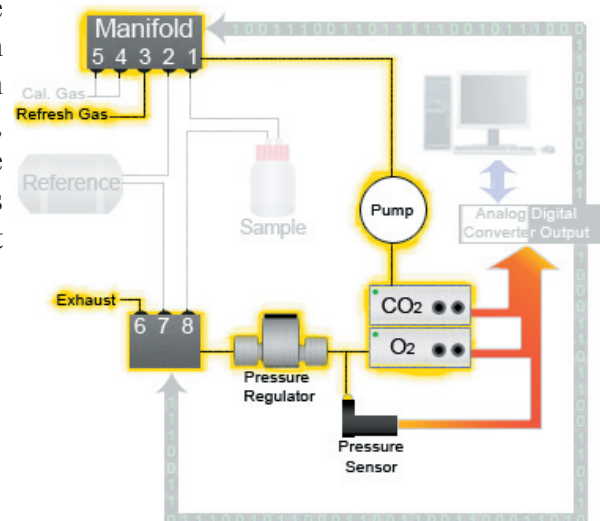

Figure 11
Step 6: Now the purge gas concentrations are measured (Figure 11). This step is rather important. In between the measurement of each sample, the sensors are purged with ambient air to remove the residual gas left in the sensors from the previous sample. But when we measure the next sample, the small amount of gas inside the sensors is mixed with the Sample Chamber gas. So the purge gas is measured by the gas sensors so we know what we've mixed in. We later subtract it from the sample's measurement.